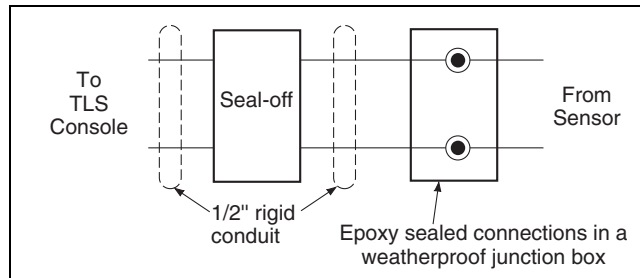

Figure 5. Sensor Field Wiring Diagram
10. Using wire nuts from the kit, connect the two wire sensor cable to the field wires in the sensor junction box (ref. Figure 5).